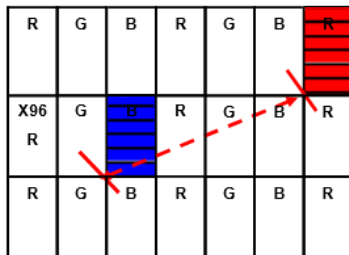

Fig.1
眼睛与产品距离 30 ± 5 cm, 产品与灯管距离 40 ± 5 cm, 如图 1 和图 2;
6.6.1.2 The drawing of 1/2 area sub-pixel definition: The 1/2 area sub-pixel can be defined as below one or more of specific shapes (Fig.1). The small bright dots is less than or equal to 10 dots. 1/2 区域子像素定义图：1/2 区域子像素可以定义为以下一个或多个特定形状（图 1）。小亮点小于或等于 10 点。